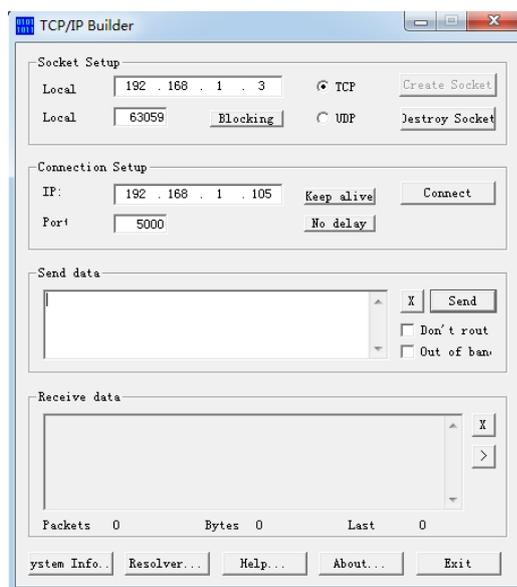

Fig.1.4
4. In "**Connection Setup**" group, at **IP** please enter the IP address of BE-M104, which by default is 192.168.1.105. At **Port** please input the port number of BE-M103, which by default is 5000. And then click on **Connect**. If everything goes right and the connection is successful, **Send** button will be enabled now. See **Fig.1.4**